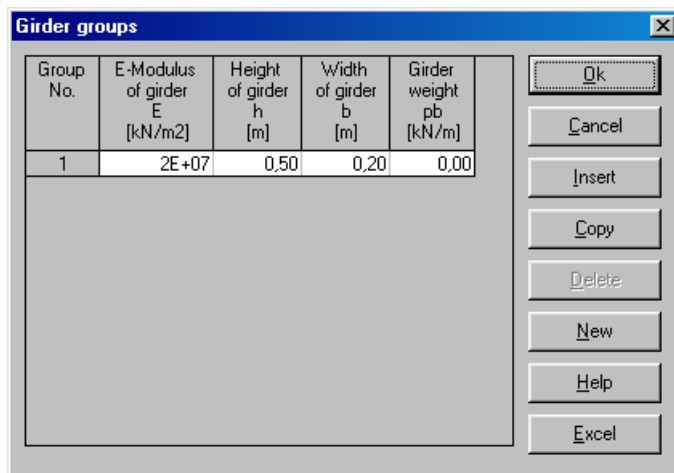

Figure 8-13 "Defining girder groups" list box
After clicking "OK" button in the "Cross section definition" option box, the following list box in Figure 8-13 appears.
- Enter the material properties of the girder, cross-section dimensions and the girder weight as indicated in Figure 8-13. This is done by entering the value in the corresponding cell and press "Enter" button